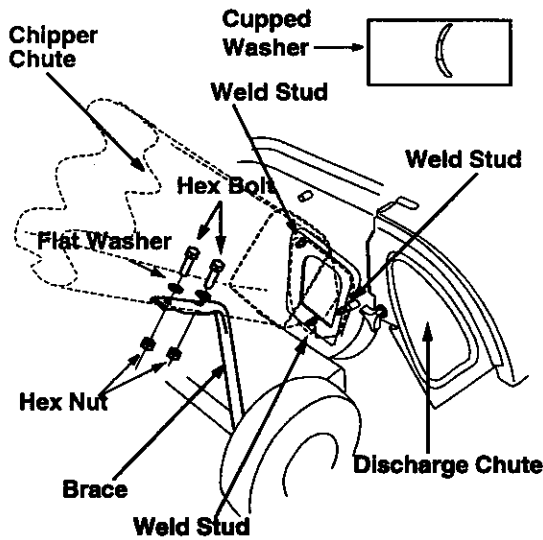

Figure 7
- Remove the three cupped washers and hex nuts from the weld studs beside the opening on the left side of the housing. See Figure 7.
- Remove the two sets of hex bolt, lock nut, and flat washer from the two holes on the upper end of the brace. See Figure 7.
- Align the holes towards the front opening of the chute with the holes on the brace. See Figure 7.
- Insert one each of the hex bolts, lock nuts, and flat washers (that you earlier removed) through each hole in the chute and the brace. See Figure 7 for the correct order. Tighten bolts.